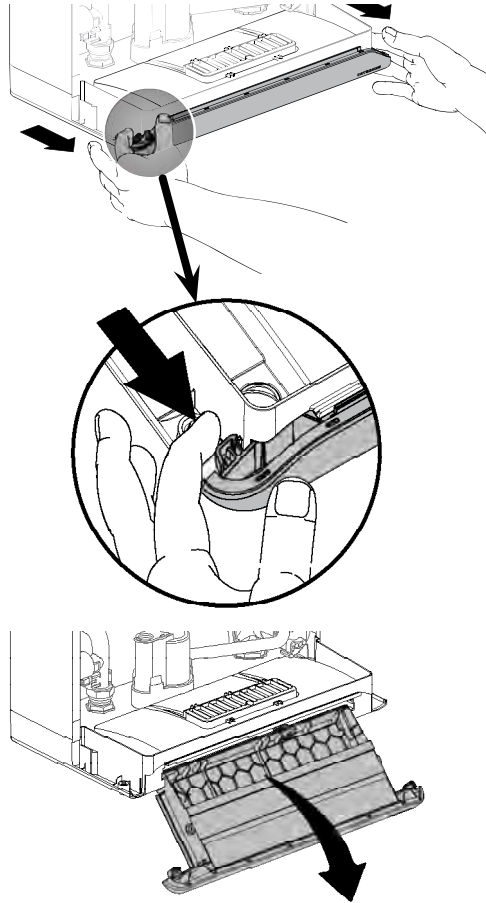

Figure 34: Pulling out the tray.
1. Pull out the controller as shown in Figure 34.